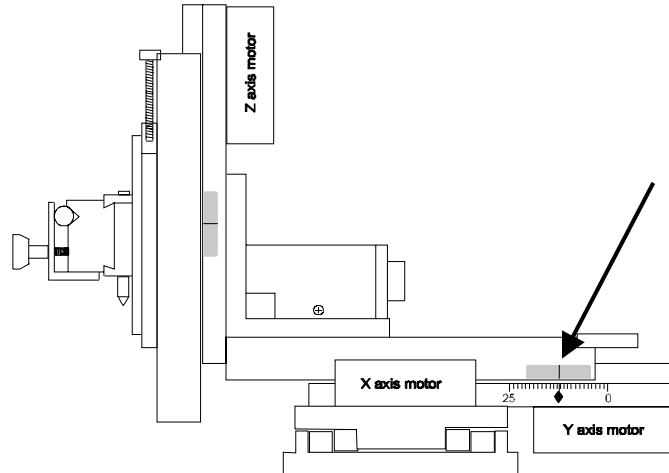

Figure 31. Mid-excursion index mark.
- Check to see if the slide is at the endpoint of its excursion. Located on one edge of each axis are index marks to indicate the position of the driven slide relative to the driver. When the center marks of the opposing indexes are aligned with one another, the driven slide is at the middle of its 1-inch (25mm) excursion (see Figure 31).
The slide for one axis of the micromanipulator is at its limit of excursion (see Figure 31), it won't move in either direction and the display indicates a change in the coordinates for only one of the directions. All other axes work fine.